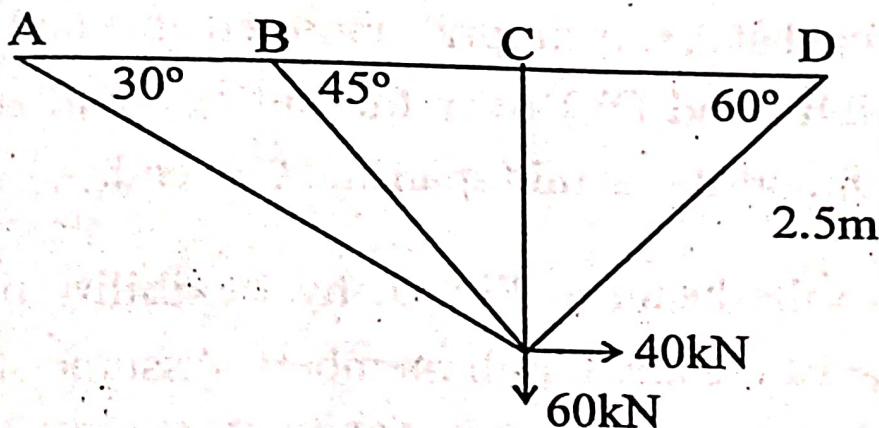

Fig. 4.
4. Analyse the pin jointed truss frame shown in following Fig. 4. by stiffness matrix. Assume cross sectional area of each member 1000 mm^2 , $E = 2 \times 10^5 \text{ N/mm}^2$.